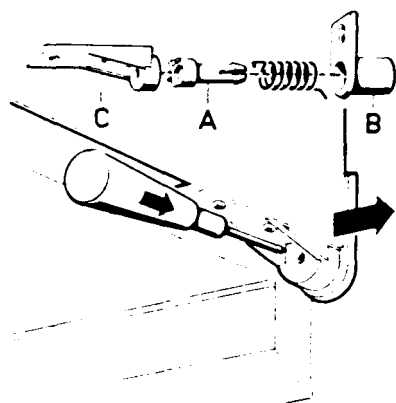
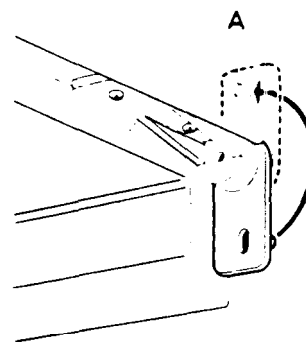

Fig. 27
Fig. 28
1. Push the carrier (A) inwards by means of a blunt mandrel or pin (fig. 27) and remove the shutter.
2. Pry the spring housings (B fig. 27) away from the lining so that it snaps out and turn the spring housings downwards  $180^{\circ}$  (fig. 28).
3. Mount the new shutter in close position first on one side, making sure that the cross slots engage in the cross on the hinge plate (C fig. 27).
5. Turn the spring housings round and up until the small tag (A fig. 28) snaps into the slot in the lining.